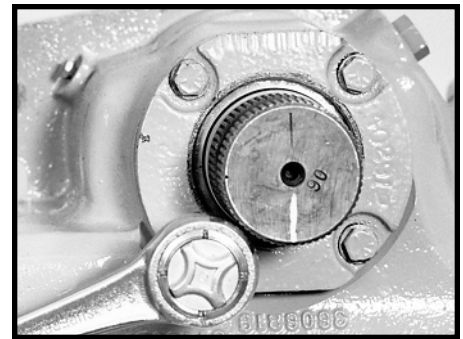

Figure 42
4. Remove the four bolts (28) and washers (27) from the trunnion cover with a 1/2 inch socket. SEE FIGURE 42.